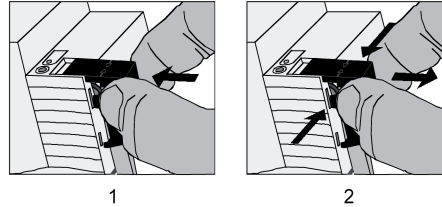

Figure 4: Installing / removing the protective cap for the bus connection
- To install the cap: slide the cap over the bus terminal until you feel it engage (figure 4).
- To remove the cap: Remove the cap by pressing the sides slightly and by pulling it out to the front (figure 4).